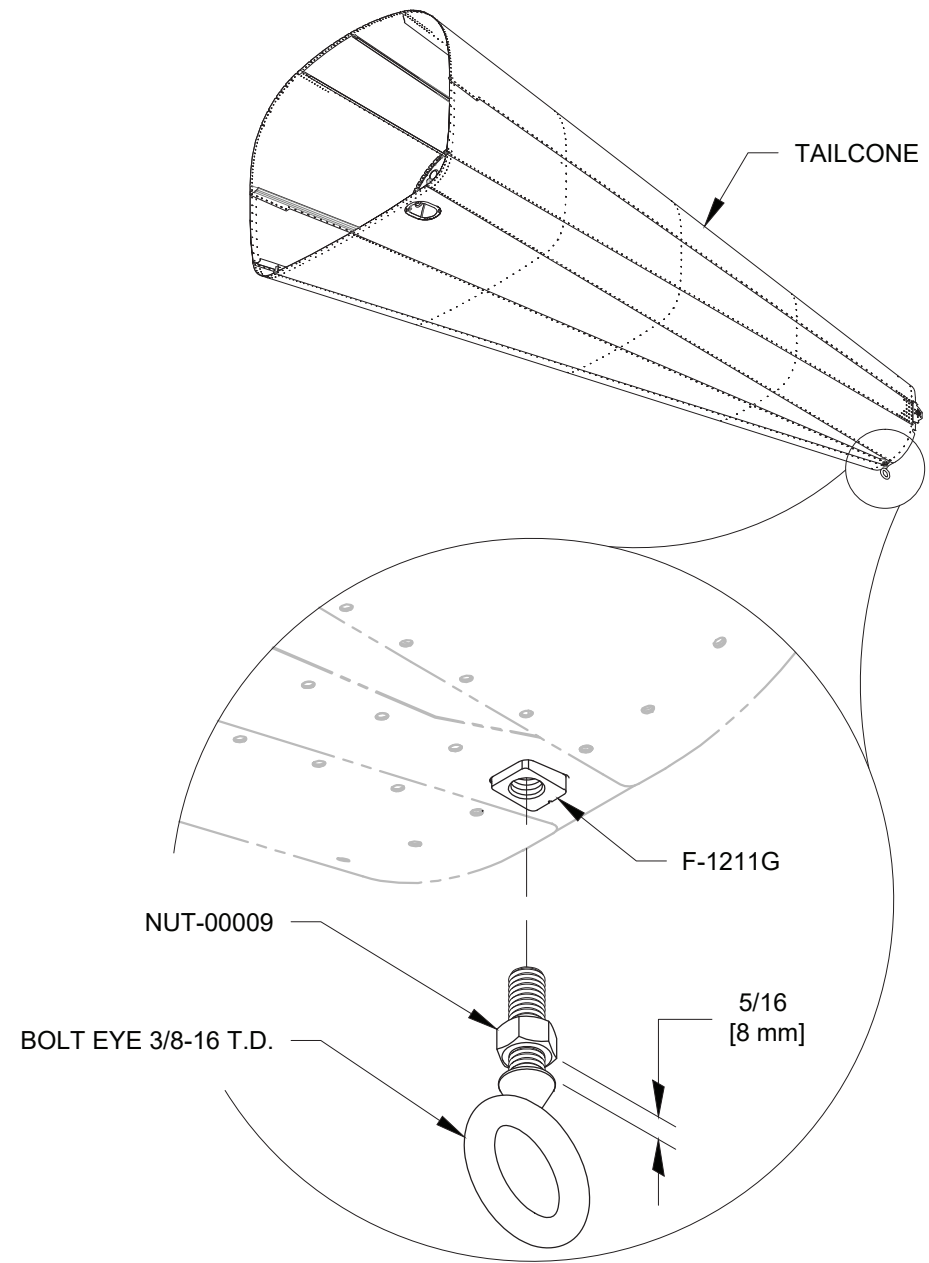

FIGURE 1: EYE BOLT INSTALLATION
Step 1: Thread NUT-00009 3/8-16 SS Plain Hex Nut onto the BOLT EYE 3/8-16 T.D. Eye Bolt per the dimension in the Figure 1 detail.